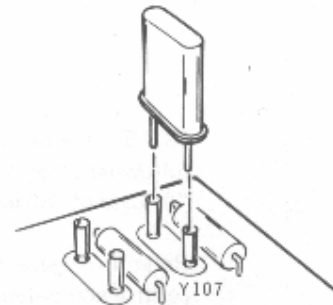

Figure 6
- () Refer to Figures 6 and 7 (fold-out from Page 57), and install the highest frequency crystal in the Y107 pins as shown.